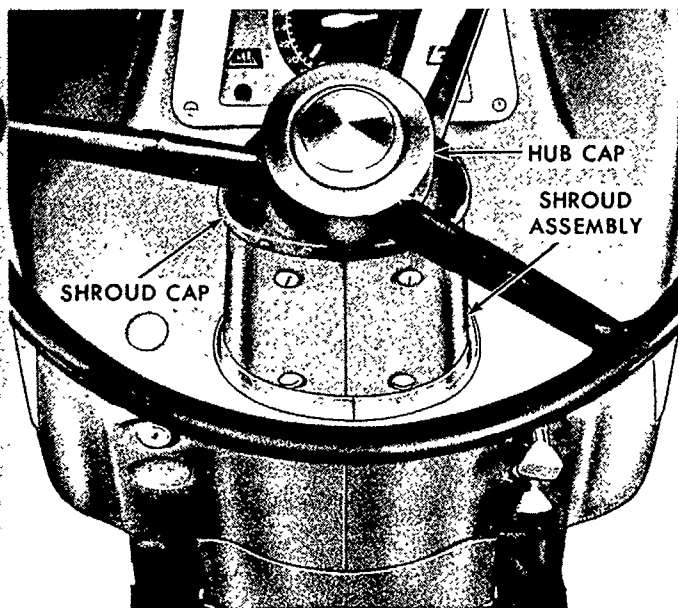

Figure 80
1. Remove the steering wheel hub cap, Figure 80, then remove the retaining nut, flat washer, and the steering wheel.
7. **8-Speed Transmission Tractors:** Install the steering shroud seal and the shroud assembly, Figure 80, and secure with the four screws and flat washers.